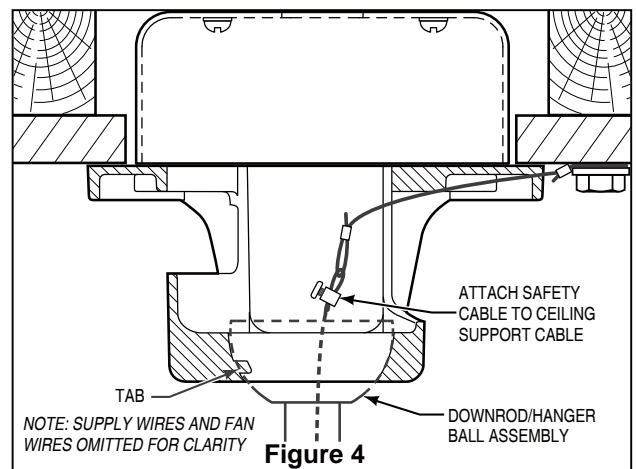

Figure 4
- 4. Slide downrod into the downrod support on top of the motor. Install the clevis pin by aligning the holes in the downrod support with holes in the downrod. Secure clevis pin with hairpin clip. Tighten the two set screws with nuts in the downrod support. (Figure 4)
4. Carefully lift the fan and seat the downrod/hanger ball assembly on the hanger bracket that was just attached to the outlet box. Be sure the groove in the ball is lined up with tab on the hanger bracket (Figure 4)
5. Attach the safety cable to ceiling support cable. Slide cable clamp onto safety cable (from fan). Place the end of cable through the loop of ceiling support cable. Pull as much cable through loop as possible. Feed end of cable into clamp hole and firmly tighten screw (Figure 4).